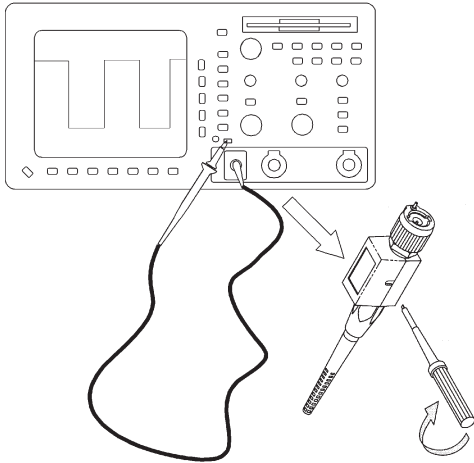

Figure 1.10. Probe compensation adjustments are done either at the probe head or at a compensation box where the box attaches to the oscilloscope input.
2. Attach the probe tip to the probe compensation test point on the oscilloscope's front panel (see Figure 1.10).